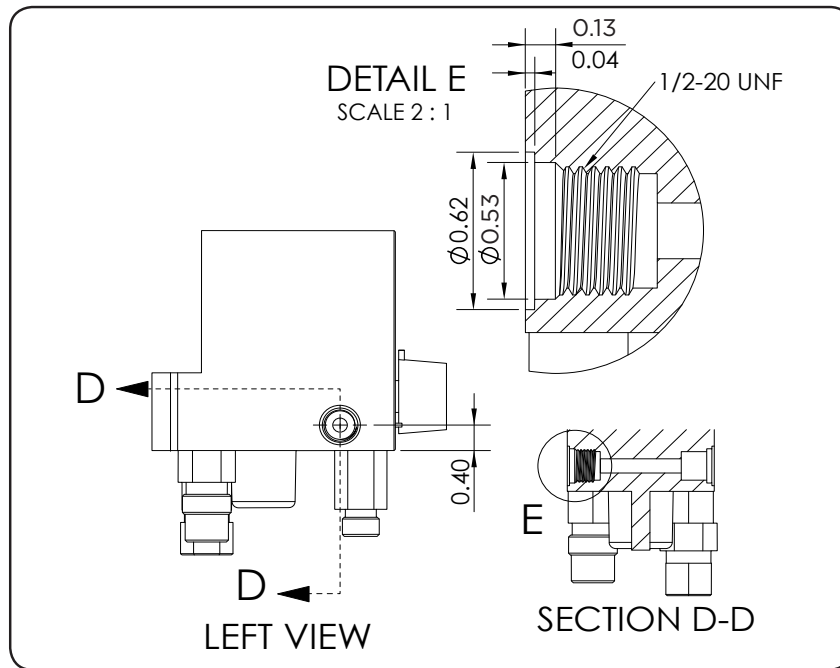

Figure 1: Blender Port Detail
3. The blender must have a primary outlet port on the left hand side of the blender with dimensions as shown in Figure 1 (*Next Page*).